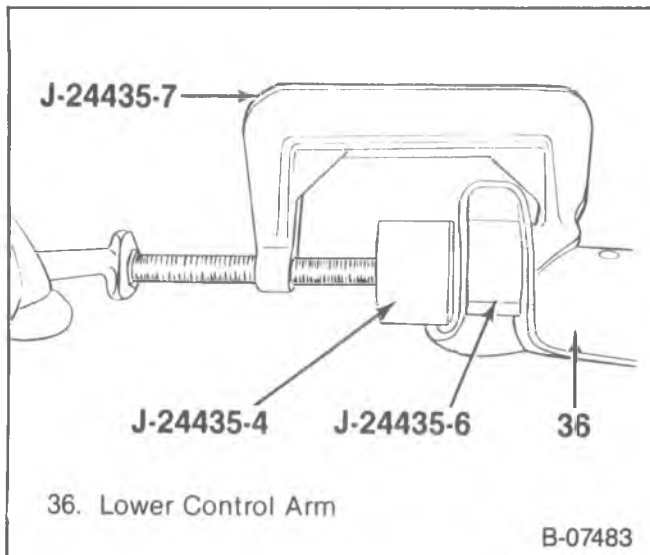

Figure 22—Removing the Lower Control Arm Bushings (R10/1500, G10/1500 and G20/2500 Models)
3. Stabilizer bar (59) from the lower control arm (28).
- Nuts (38), washers (39, 41), clamp (42), and bolts (43).
4. Pivot shaft end nuts (24).
- Nuts (49), washers (48), and U-bolts (44).
- SLOWLY lower the floor jack until all compression is released from the spring (32).
7. Bushings (46) and the pivot shaft (50) from the lower control arm (36).
- Use J-24435-2, J-24435-3, J-24435-6, and J-24435-7 (figure 22).
- The pivot shaft (50) will slide out of the lower control arm after one bushing is removed.
- Leave the pivot shaft (50) inside the lower control arm (36) to remove the remaining bushing.
2. Pivot shaft nuts (24) and washers (25).
3. Rear bushing (46).
- Press the front end of the pivot shaft (50) to remove the rear bushing. Discard the old bushing.
4. Front bushing (46).
- Tighten J-24435-7 until the bushing comes free. Discard the old bushing (figure 22).